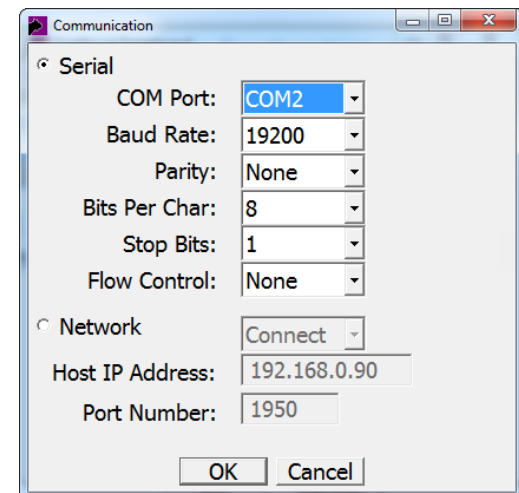

Figure 70: Scoreboard Communication
6. Click **Communication**. In the *Communication* window, click **Serial** and select the correct settings as shown below and in **Figure 70**: